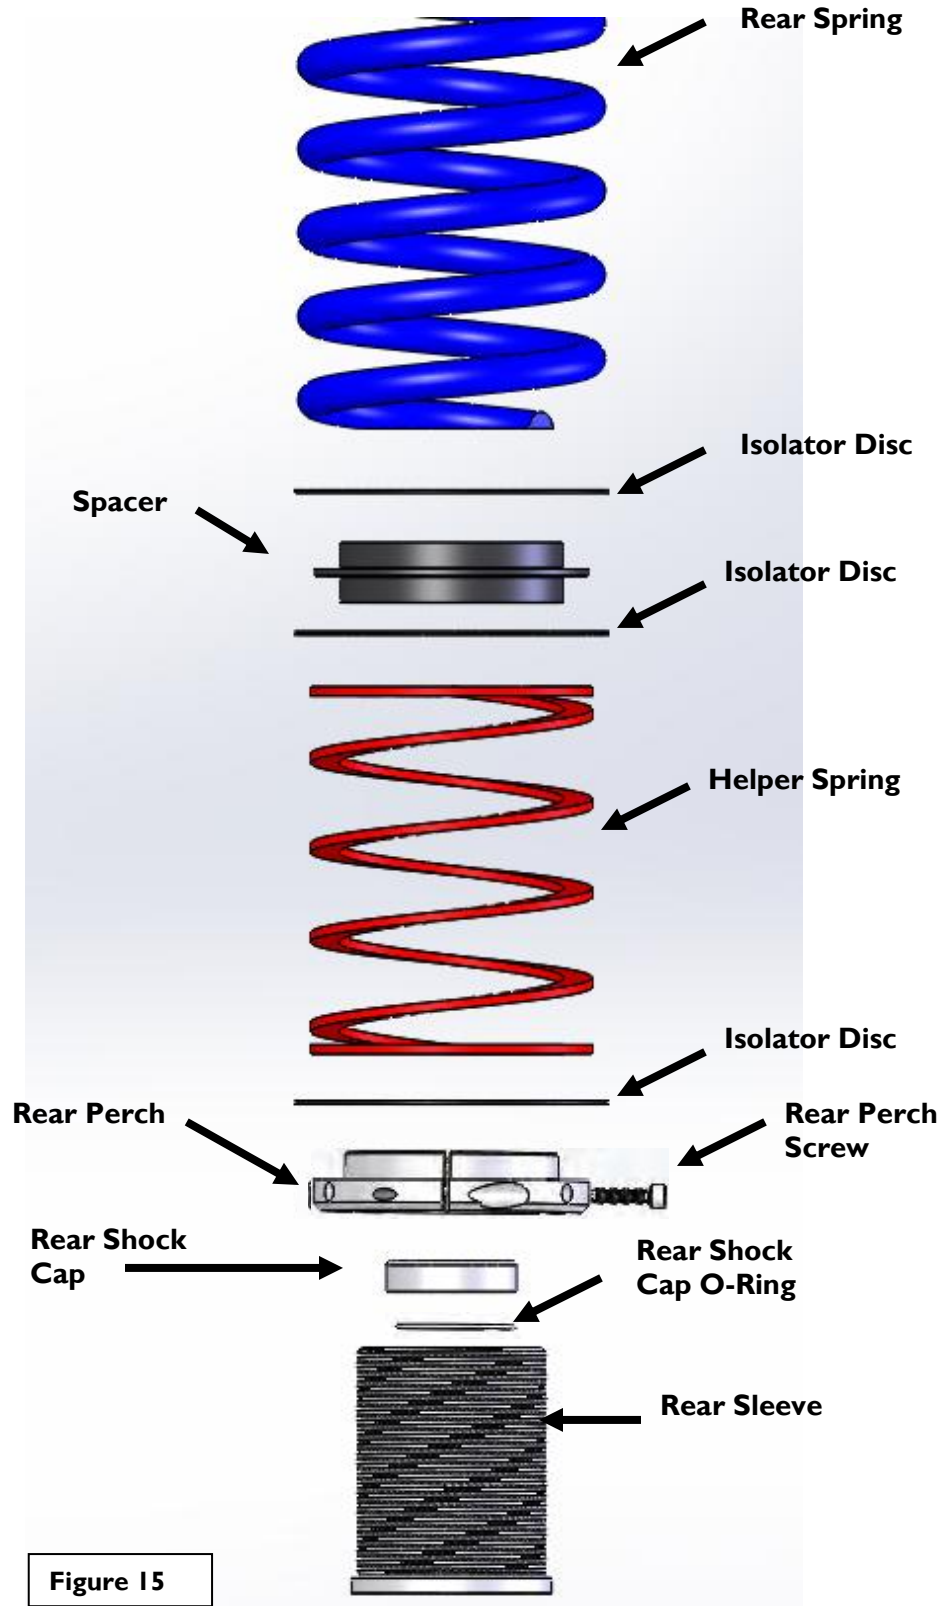

Figure 15
24. Referring to Figures 15, 16, and 17, install the isolator discs, Dinan helper spring, spring spacer, rear spring, and Dinan bumpstop onto the shock assembly (bumpstop not shown for clarity). Add a packer disc if noted in the bumpstop clearance chart at the beginning of these instructions.